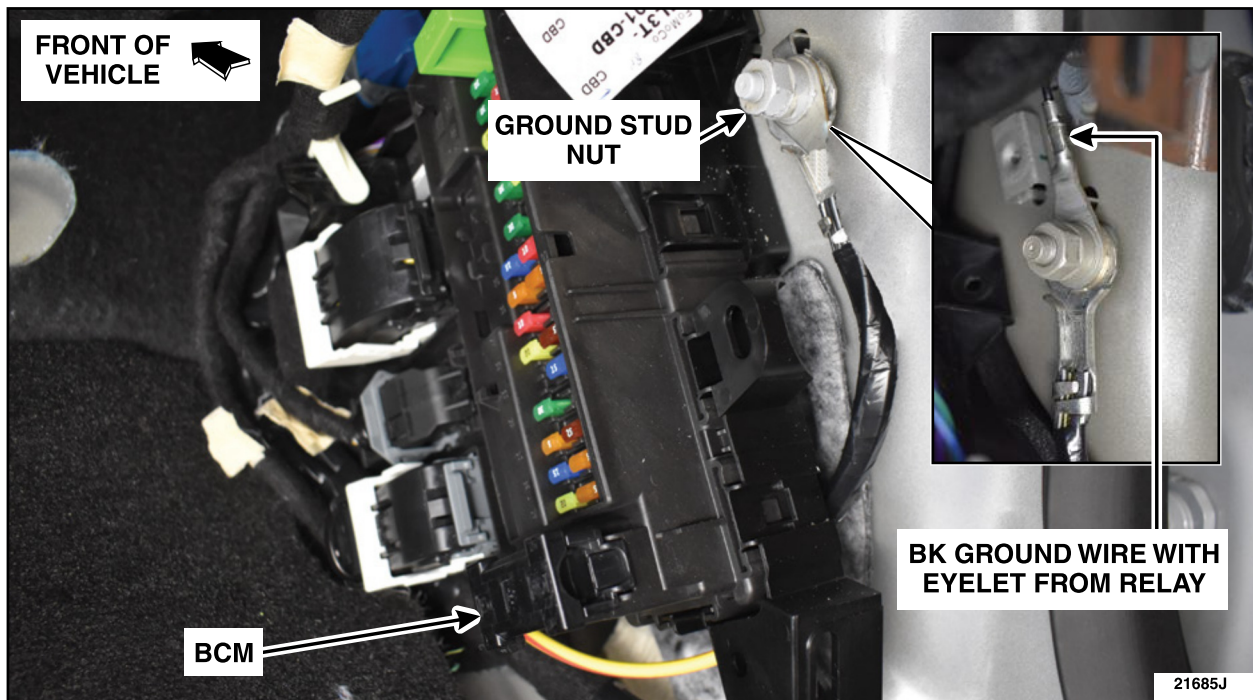

FIGURE 9
13. Install the ground eyelet to the ground stud. See Figure 9.